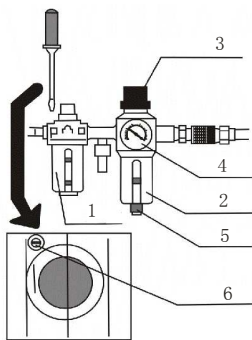

Fig.10
- See Fig.10: 1- Lubricator; 2- Filter; 3- Regulator